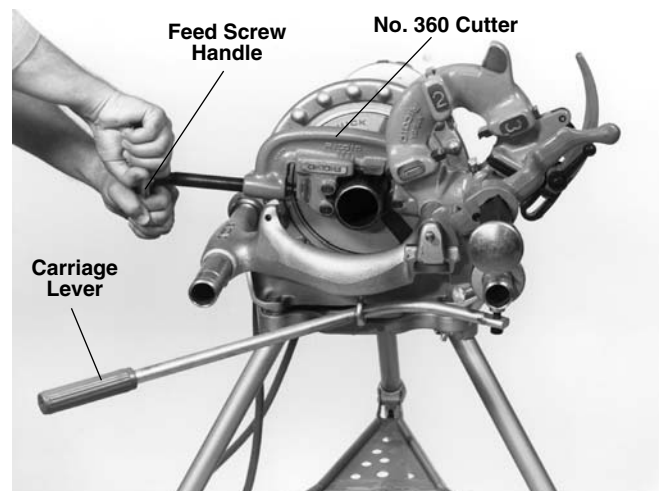

Figure 9 – Cutting Pipe with No. 360 Cutter
1. Check to insure the reamer and die head are in the UP position (*Figure 9*).
6. Grasp the pipe cutter’s feed handle with both hands (*Figure 9*).